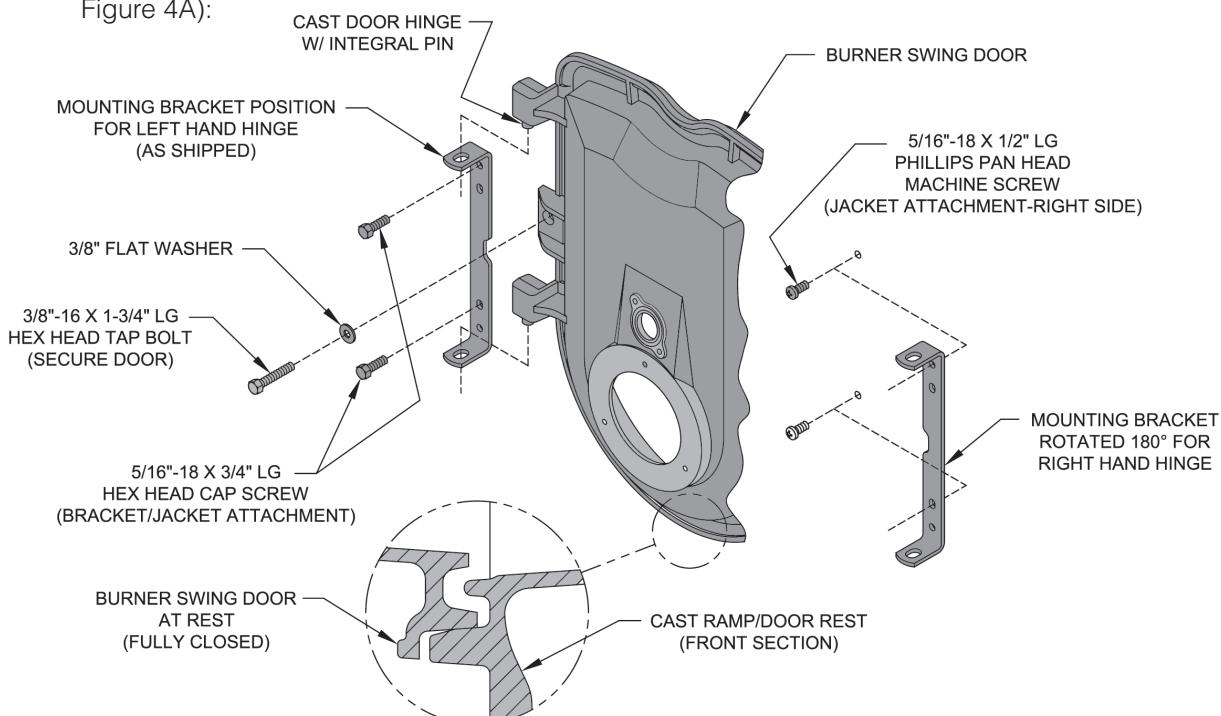

Figure 4A: Partial Front View - Burner Swing Door Mounted to Boiler - Fully Closed and Secured
(see Figures 4A and 4B).
To reverse hinge arrangement (see Figure 4A):
- To close Burner Swing Door (see Figures 4A and 4B):
Step 2. If necessary, place your right hand under the burner air tube to lift upward. Lift the door up onto the built-in cast ramp/door rest (protruding from the bottom of the front section casting - see Figure 4A).